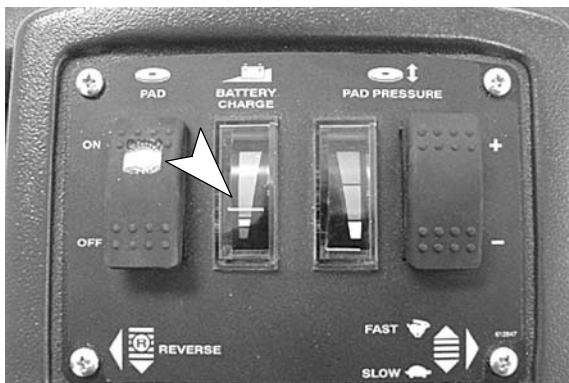

FIG. 16
6. Check the battery meter's discharge level periodically. When the meter's needle drops into the yellow caution zone, stop burnishing and recharge the batteries (Figure 16).